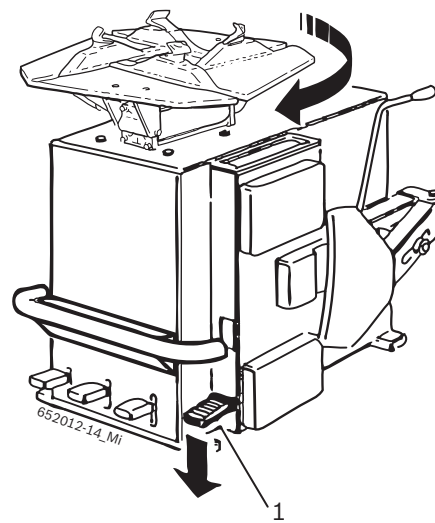

Fig. 2: Check rotation direction.
! For a correct functioning of TCE 4230 it is extremely important that, when the locking flange pedal shown in Fig. 2 (1) is pressed, the locking flange (Fig. 2) rotates clockwise.